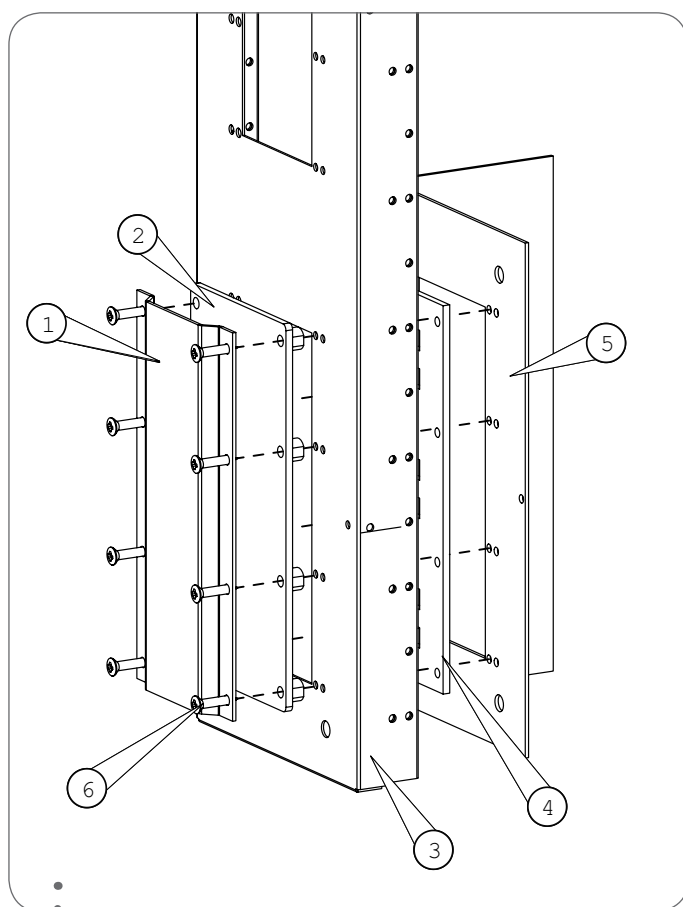

Fig. 2.6. Installing insulator component assembly to frame plate at busbar end. Just an insulating flange is installed to frame plates not at busbar end.
At the busbar system end, insulators (4) and also end flash barriers (1), insulator ends (2) and flash barriers (5) are installed to the frame plates. The whole assembly is fastened from the outside using long (4.8x25 mm) plate screws, Fig. 2.6. Insulators (4) only are installed to the frame plates / frame plate packages that are not at busbar end.